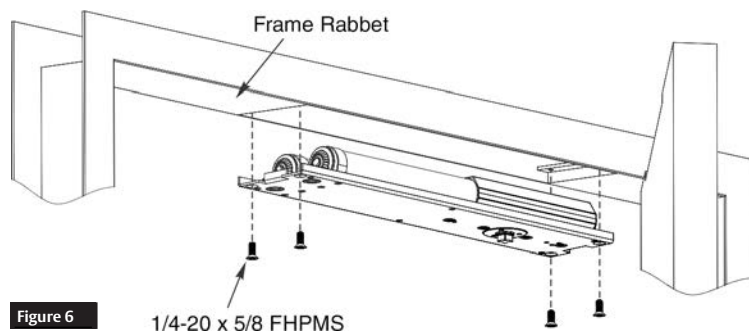

Figure 6
1. Install closer into frame with four (4) 1/4-20 x 5/8" machine screws. (Figure 6)